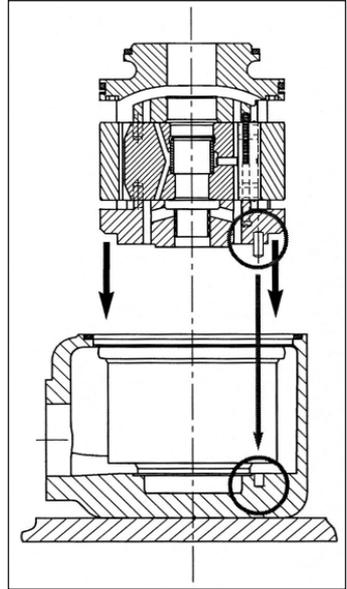

Fig. 7
1. Fit the cartridge into the housing (Fig. 7).